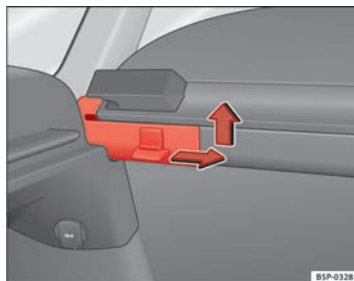

Fig. 123 Removing the rear shelf
- Press the side pin in the direction of the arrow, lift the cover and remove it. ⇒ fig. 123